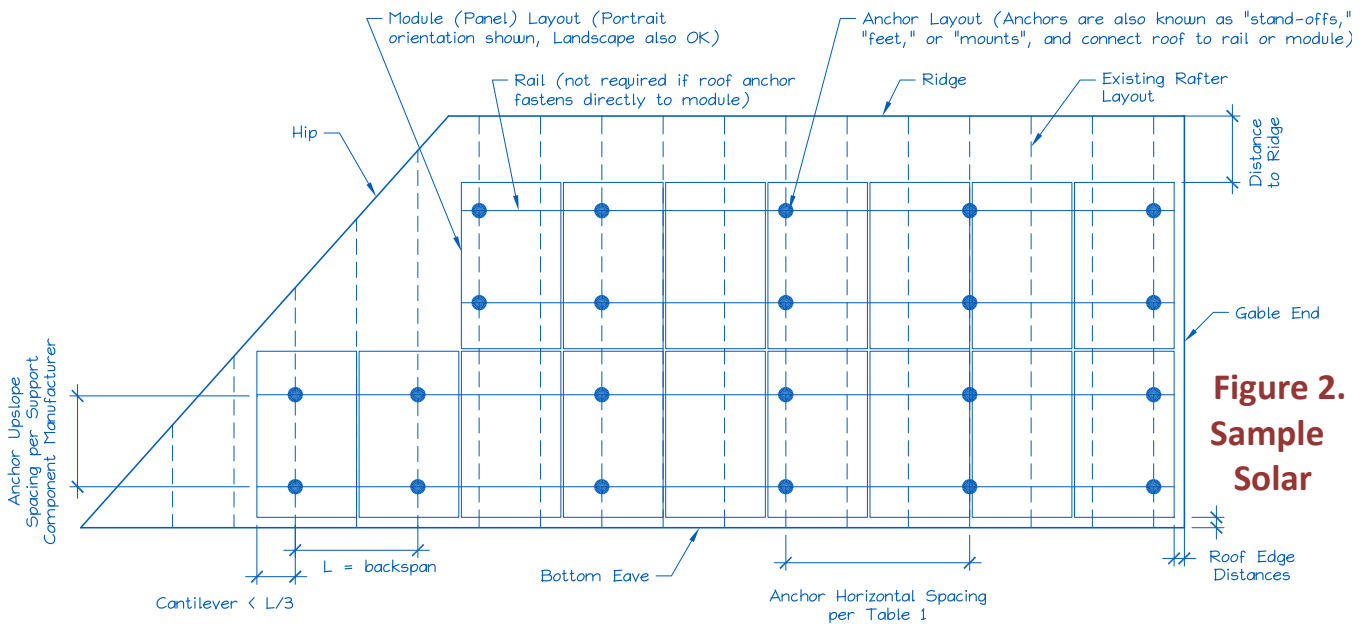

Figure 2. Sample Solar
E. Is a roof plan of the module and anchor layout attached? (see Figure 2) Y N
- 1) Proposed anchor horizontal spacing (see Figure 2): _____' - _____"ft-in
- Anchors are also known as "stand-offs", "feet", "mounts" or "points of attachment". Horizontal anchor spacing is also known as "cross-slope" or "east-west" anchor spacing (see Figure 2).